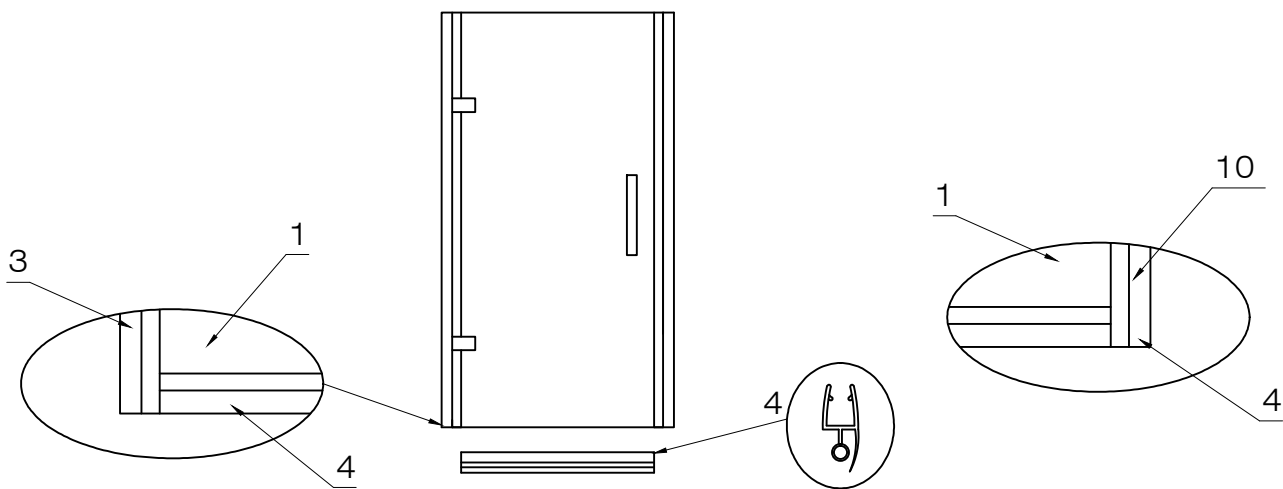

FIG.10
4. Install the seal strip according to the diagram. [SEE FIG.10]